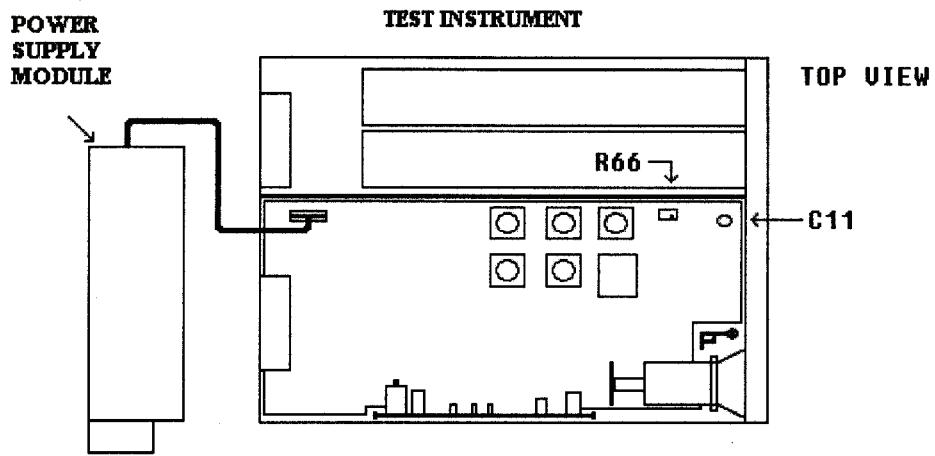

Figure 5. Trigger level adjust.
- (8) Set up function/arbitrary generator for an output of 1.00 Vpp 100 kHz square wave.
- (9) Set oscilloscope **Vertical 1** and **Vertical 2** input impedance to  $50\Omega$ .
- (10) Adjust oscilloscope controls to obtain a satisfactory dual two-channel display on the crt.
- (11) Rotate TI **FINE CONTROL KNOB** clockwise, increasing the trigger level. Record the level at which the waveform disappears. Reset the trigger level to 0.10 V.
- (12) Rotate TI **FINE CONTROL KNOB** counterclockwise, decreasing the trigger level. Record the level at which the waveform disappears. Reset trigger level to 0.10 V.
- (13) Add the results of (11) and (12) above. Divide this value by two and subtract the result from the value recorded in step (11). Rotate TI **FINE CONTROL KNOB** to adjust trigger level to this new value.
- (14) Adjust R66 (fig. 5) until **Vertical 2** waveform just disappears (R).
- (15) Using TI **FINE CONTROL KNOB** adjust trigger level to 0.52 V.
- (16) Adjust C11 (fig. 5) to the point that the waveform just disappears (R).
- (17) Press TI **POWER ON/DISABLE** key to **DISABLE**.
- (18) Disconnect 115 V power cord from TI.
- (19) Reinstall power supply module in TI chassis.
- (20) Replace TI top cover.
- (21) Reconnect 115 V power cord to TI.
- (22) Press TI **POWER ON/DISABLE** key to **ON**.